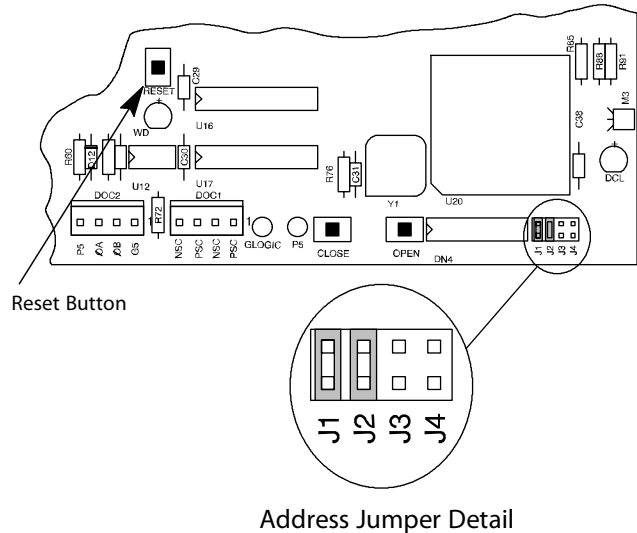

Figure 7 - Door Configuration Jumpers
1. Verify that the door configuration jumpers on the door card are installed. See Figure 7.